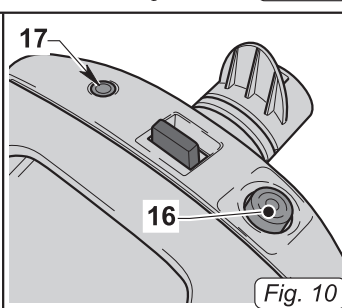

Fig. 10
- Press the switch (16 Fig. 10), which lights up, to switch the appliance on.
- When the light (17 Fig. 10) comes on, this indicates that the paper bag is full and must be replaced.
- Press the switch (16 Fig. 10) to switch off the appliance.